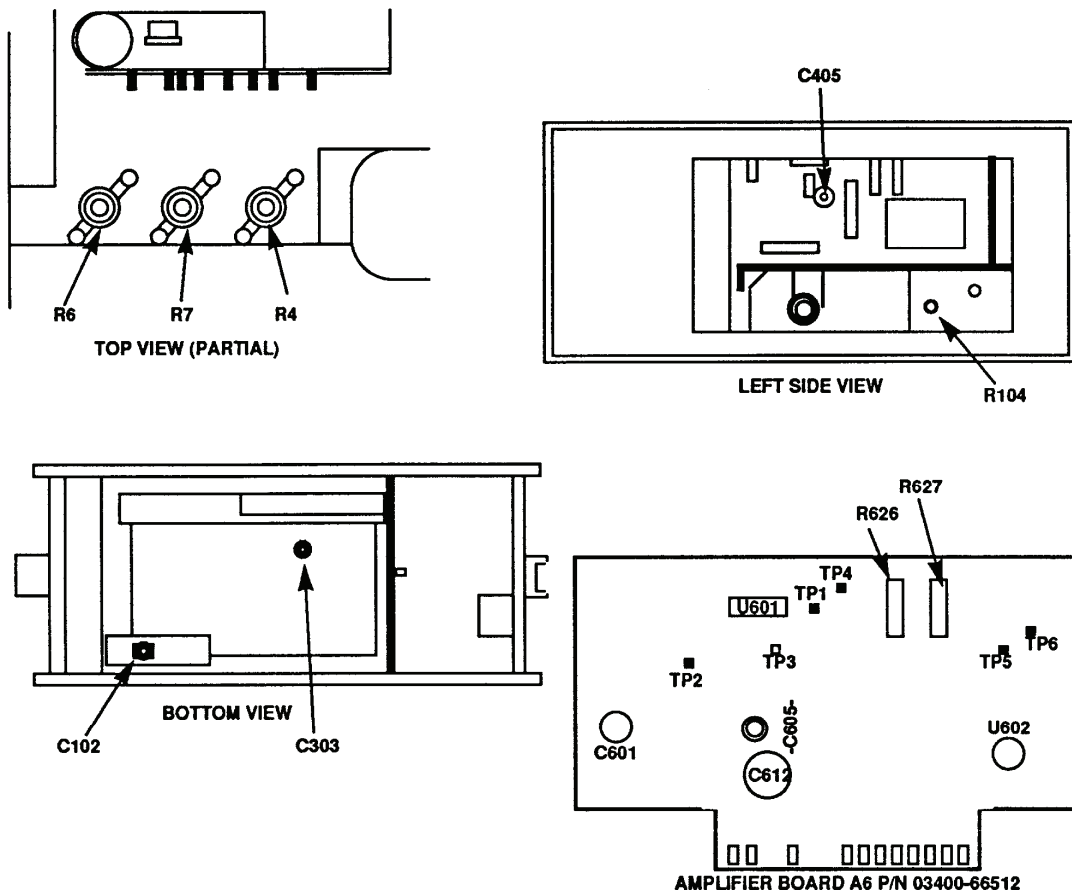

Figure 1. Test instrument - top, left side, bottom view, and A6 board, P/N 03400-66512.
- (1) Adjust R4 (R627 for TIs with amplifier board A6, P/N 03400-66512) (fig.1) until multimeter indicates -1.00 V.
- (2) If necessary, adjust R6 (fig. 1) for full-scale indication on TI.
- (3) Set calibrator for a 10 mV, 400 Hz output. Adjust R6 (fig.1) until TI indicates full scale (R).
- (4) Set **RANGE** switch to **.1 VOLTS**.
- (5) Adjust R7 (R626 for TIs with amplifier board A6, P/N 03400-66512) (fig. 1) until TI indicates 0.01 V (1 /10 scale) (R).
- (6) Set **RANGE** switch to **.01 VOLTS**.
- (7) Repeat (3) through (6) above until no further adjustment is necessary.
- (8) Set calibrator for a 1.0 V, 400 Hz output. Adjust R104 (fig. 1) until TI indicates 1 (R).
- (9) Set TI **RANGE** switch to **.001 VOLTS**. Set calibrator wideband output to 400 Hz and adjust amplitude for a full scale reference indication. Press **NEW REF** on calibrator.
- (10) Set calibrator frequency to 10 MHz. Adjust C405 (fig. 1) for the 400 Hz full scale reference established in **b** (9) above (R).
- (11) Vary calibrator frequency between 3 and 10 MHz and if required, readjust C405 (fig. 1) for best in-tolerance condition.
- (12) Set TI **RANGE** switch to **1 VOLTS**. Set calibrator wideband output to 400 Hz and adjust amplitude for a full scale reference indication. Press **NEW REF** on calibrator.
- (13) Set calibrator frequency to 100 kHz. Adjust C102 (fig. 1) for the 400 Hz full scale reference established in **b** (12) above (R).
(14) Vary calibrator frequency between 100 kHz and 10 MHz and, if required, readjust C102 (fig. 1) for best in-tolerance condition.
(15) Set TI **RANGE** switch to **.3 VOLTS**. Set calibrator wideband output to 400 Hz and adjust amplitude for a 0.3 Volt reference indication. Press **NEW REF** on calibrator.
(16) Set calibrator frequency to 3.0 MHz. Adjust C303 (fig. 1) for the 400 Hz 0.3 V reference established in **b** (15) above (R).
(17) Vary calibrator frequency between 3 and 10 MHz and, if required, readjust C303 (fig. 1) for best in-tolerance condition.